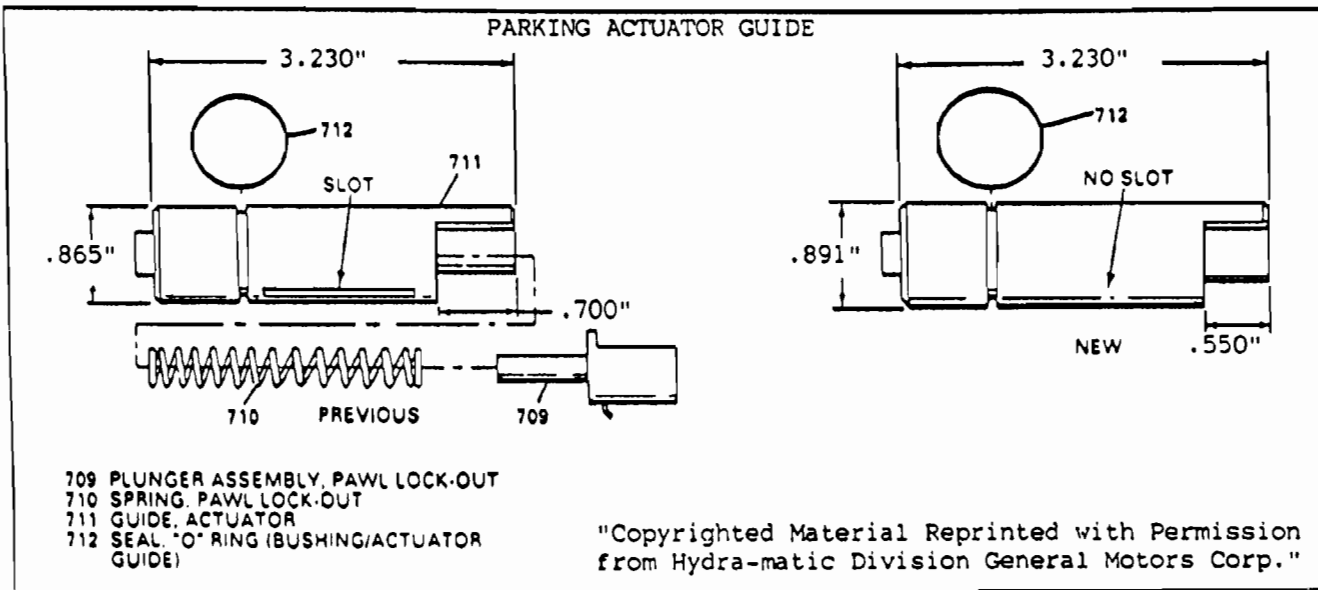

Figure 39
- (2) ACTUATOR GUIDE - Outside diameter has been increased by .026" for the increased diameter of the "Bullet" on the parking rod. The plunger assembly and spring have been eliminated. The slot in the actuator guide has also been eliminated (See Figure 39).
- (3) ACTUATOR GUIDE "O" RING - The "O" ring is now a larger diameter to seal the larger diameter actuator guide (See Figure 39).